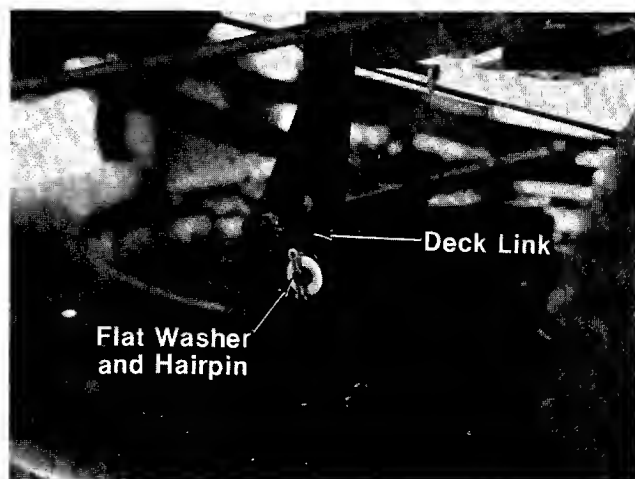

FIGURE 32.
10. Remove the three (3) hairpin cotters and flat washers which hold the deck links to the rider. Two (2) are located at the rear of the deck. See figure 32. One (1) is located at the front of the deck.